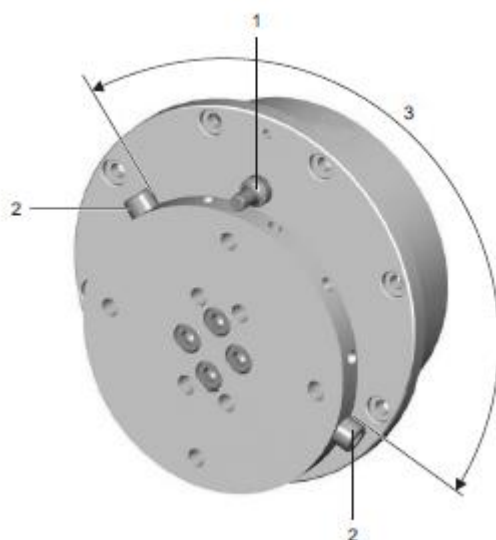

Fig. 3 Setting the pan and tilt limits
- When the unit is driven to either of its pan stop positions, the head of the screw strikes against the “End Stop Pin” and as a result the unit is limited to this position. See Fig. 3.
- When the unit is driven to either of its tilt stop positions, the head of the screw strikes against the “End Stop Pin” and as a result the unit is limited to this position. See Fig. 3.